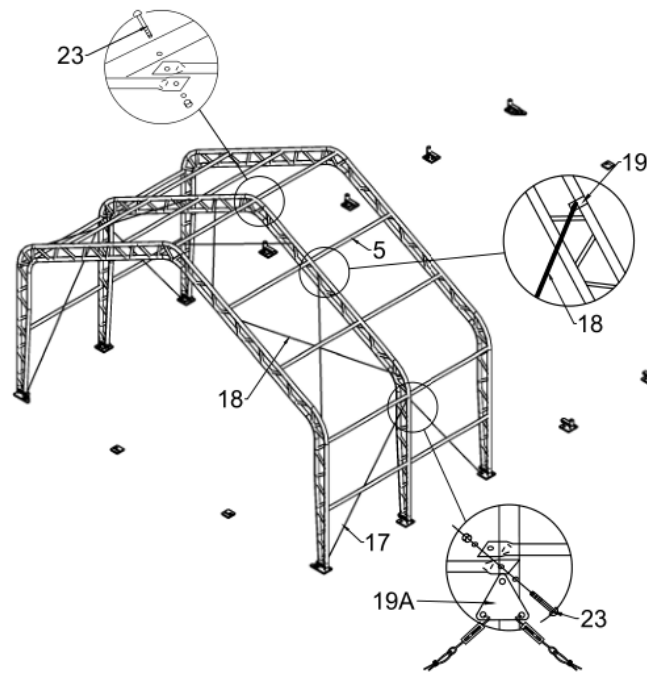

Figure 5
assemble every group arch by turns(see Figure 5)
3.Connect Purlin(No.5) to arch by using Carriage bolt 10x80mm (No.23) by turns(see Figure 5),then connect the Steel wire(No.17 and No.18) on side and top by using Clip(No.19)and Angle iron(No.19A)to arch. (see Figure 5)